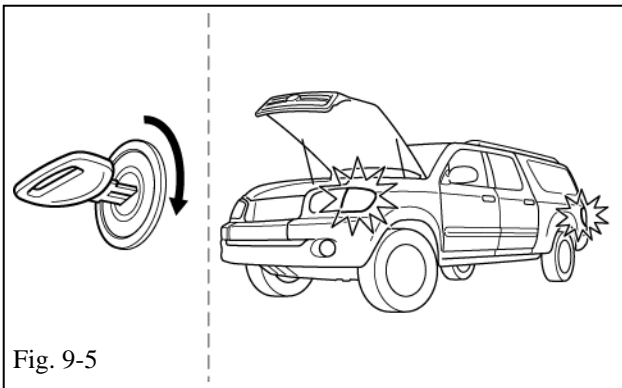

Fig. 9-5
- (h) Start the Engine. (Fig. 9-5)
- (i) After 10 seconds stop the Engine. (Fig. 9-5)